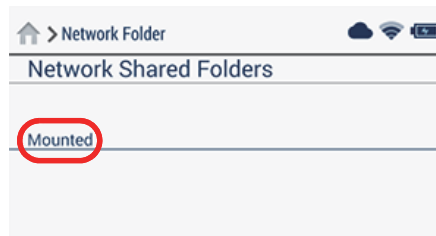

Figure 4-3 Folder successfully mounted
The “Mounted” annotation is displayed under the folder you selected (see Figure 4-3 on page 115).
1. Tap the mounted network folder (see Figure 4-3 on page 115).
1. Tap a folder (mounted or unmounted) in the **Network Shared Folders** list (see Figure 4-3 on page 115).